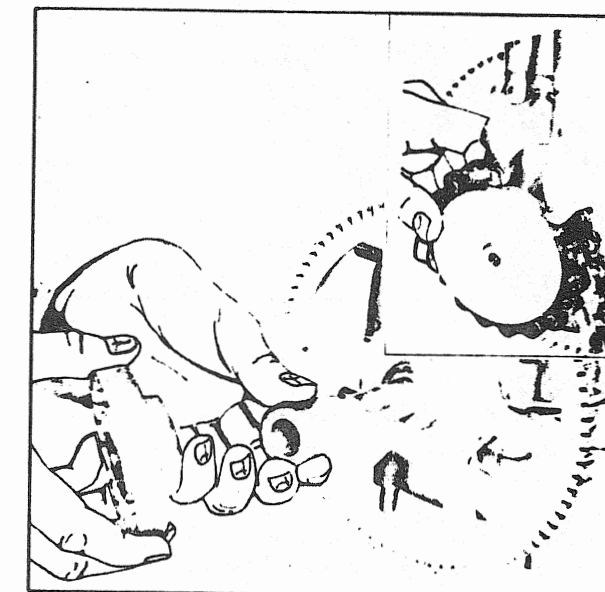

FIGURE 12
- Remove drive spacer and washer (fig. 12).